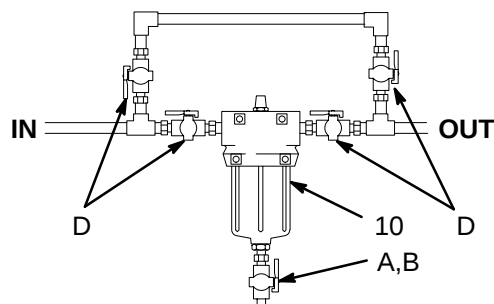

Fig. 2 **Filter Bypass System**
Install the filter and bypass pipes as shown in Fig. 2. Install four suitable shutoff valves (D), one each at the filter inlet, the filter outlet, the bypass pipe inlet, and the bypass pipe outlet. These valves redirect the fluid and isolate the filter while cleaning and servicing.